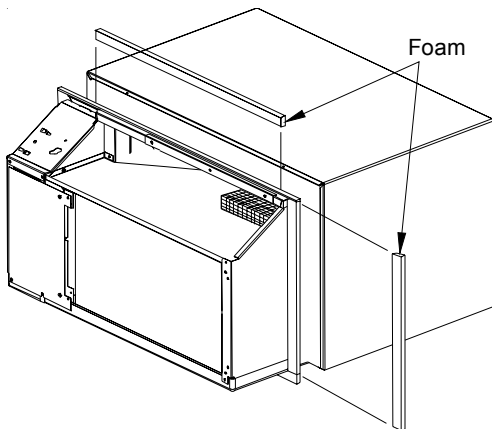

Figure 7
3. Install the 1/2" x 1/2" supplied gasket foam around the top and two sides of the chassis (Figure 7).